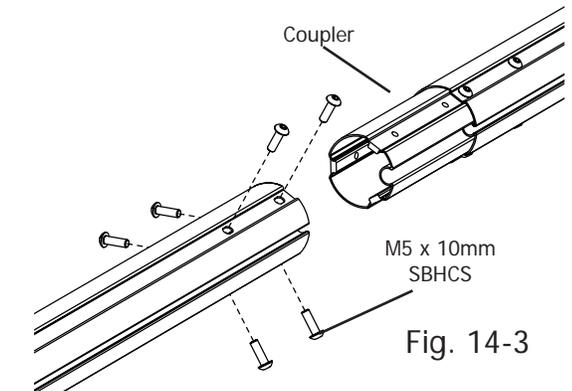

Fig. 14-3
⚙️ **14-5:** Attach the coupler to the rails using six (6) M5 x 10mm SBHCS, as shown in Fig. 14-3. Tighten all the screws in a clockwise manner until they are all tight.